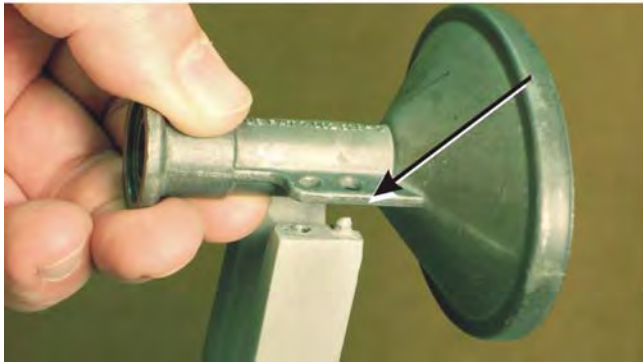

Figure 21: Aligning the feed horn on the adapter bracket
3. Place the feed horn on the feed horn support bracket so that the holes on either side of the feed horn fit into the corresponding pins on the bracket, as shown in Figure 21.